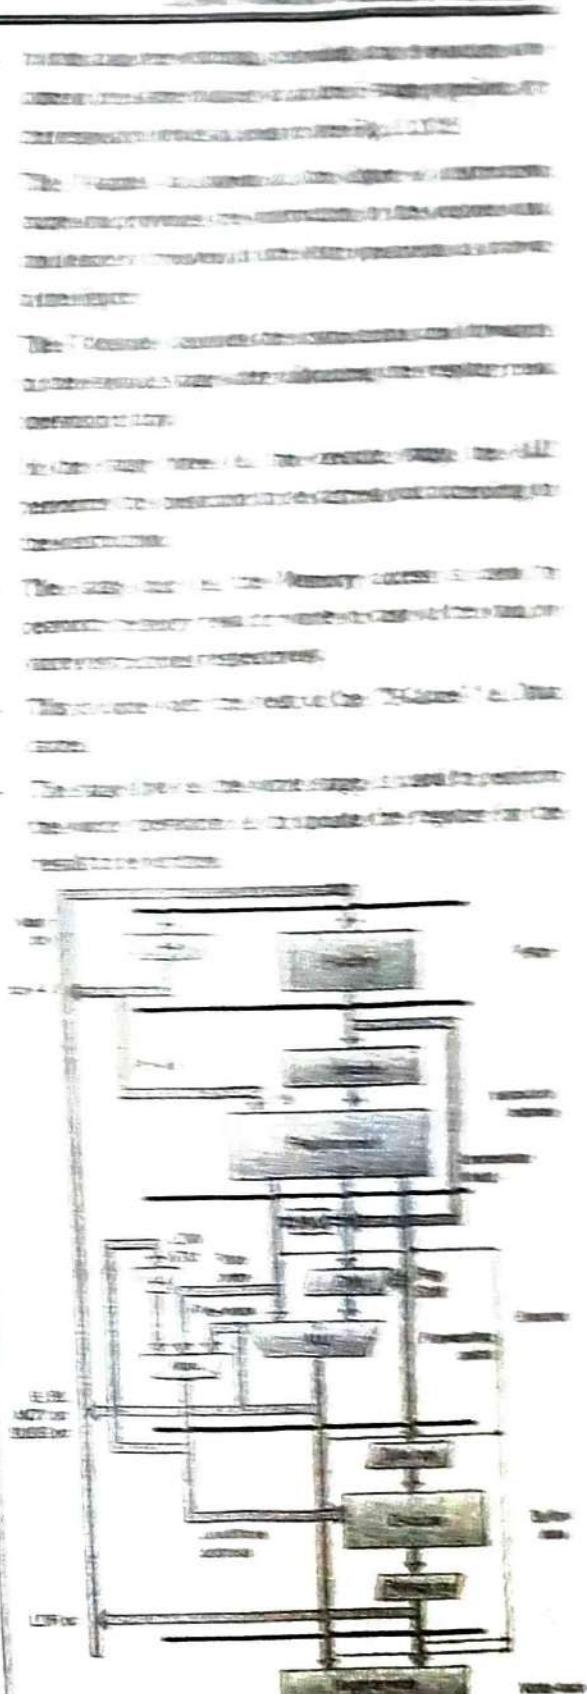

Fig. 11.10.5: Organization of 5-stage pipeline in ARM
- Fig. 11.10.5 shows the organization of the 5-stage pipeline organization in ARM9TDMI.